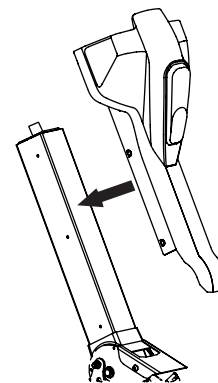
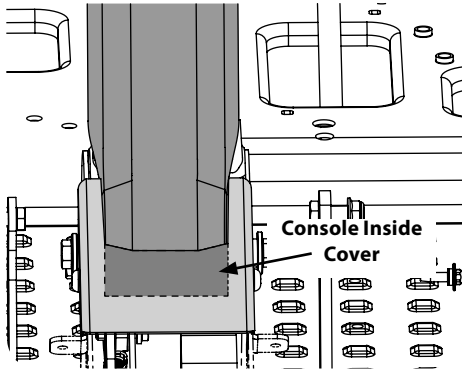

Figure 2-4
Figure 2-5
8. Slide the console onto the steering column with the wiring harness tucked in behind the console. Make sure the lower portion of the console is inside the lower column cover. See Figure 2-4 and Figure 2-5.